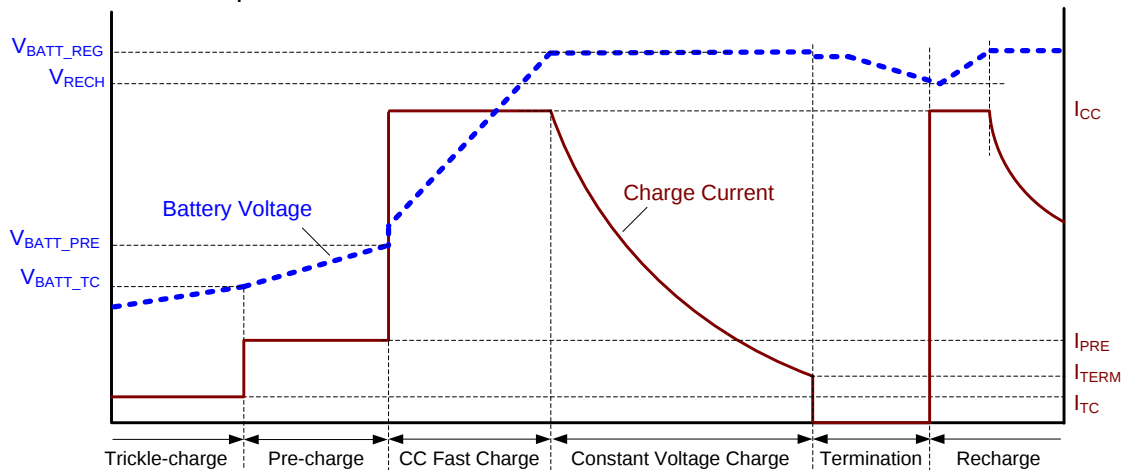

Figure 2: Charge Cycle Profile
When the input power is qualified as a good power supply, the IC checks  $V_{BATT}$  and provides four charging phases: trickle charge, pre-charge, constant-current (CC) fast charge, and constant-voltage charge (see Figure 2).